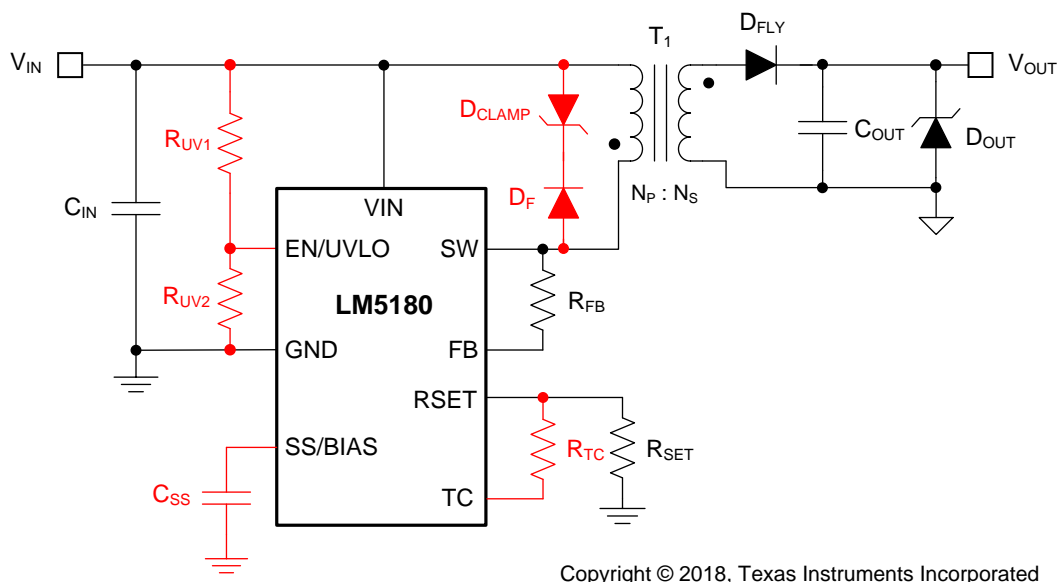

Figure 1. LM5180-Q1 Flyback Converter Schematic (Optional Components in Red)
Figure 1 shows a typical schematic of the LM5180-Q1 PSR flyback circuit. Components denoted in red are optional depending on the application requirements.
To minimize output voltage regulation error, the LM5180-Q1 senses the reflected secondary voltage when the secondary current reaches zero. The feedback (FB) resistor, which is connected between SW and FB as shown in Figure 1, is determined using Equation 8, where  $R_{SET}$  is nominally 12.1 kΩ.